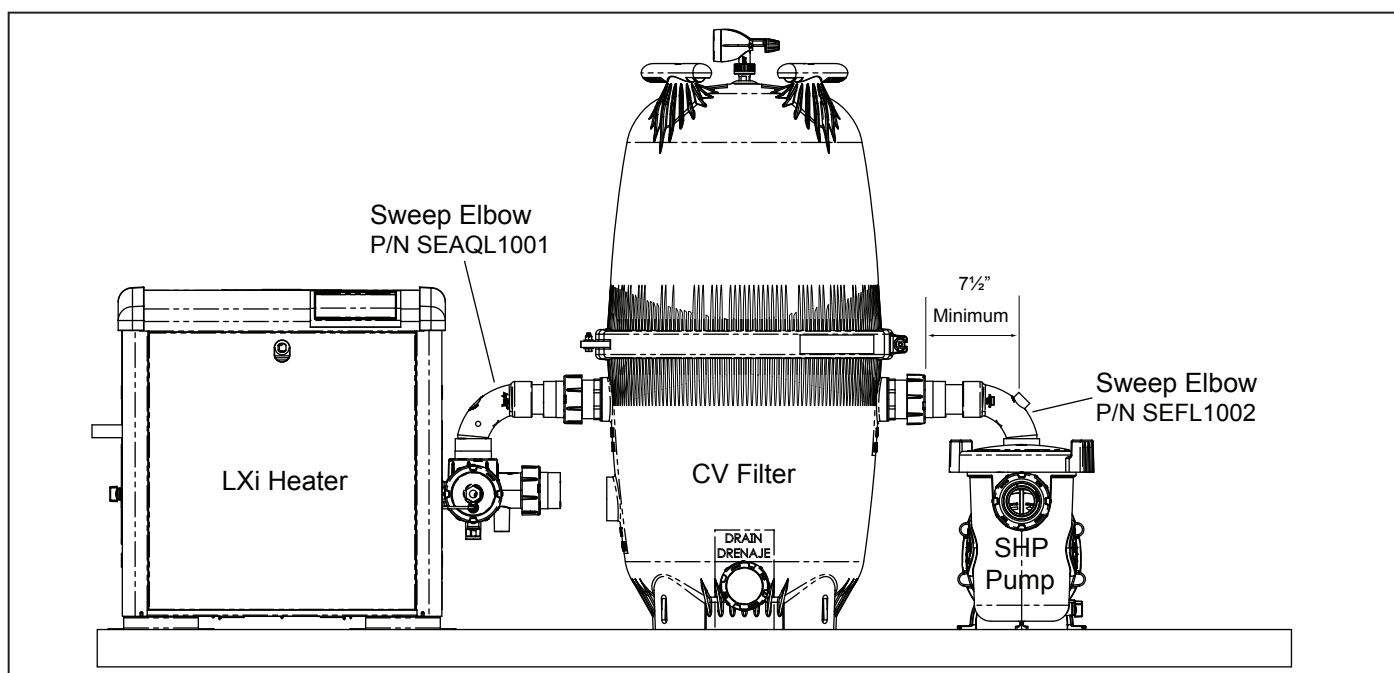

Figure 8. LXi Heater, CV Filter and SHP Pump Sweep Elbow Installation
- b. Be sure there is a minimum distance of 7½ inches between the center of the pump outlet port and the filter inlet bulkhead to accommodate the sweep elbow(s). See Figure 8 for recommended installation configuration.
NOTE The SHP pump shown in Figure 8 is for reference only. The Jandy sweep elbow also works with the MHP and PHP series pumps.